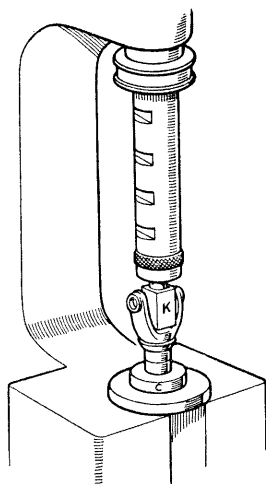

Fig. F-23—
3. Place the roller race inner member and a new retaining collar over the half shaft with the chamfer towards the splined end; stand the shaft on end and press the race inner member and collar on to the shaft until the race inner member abuts the conical distance piece. The necessary press blocks C and K, Part No. 245178, are illustrated at Fig. F-23.